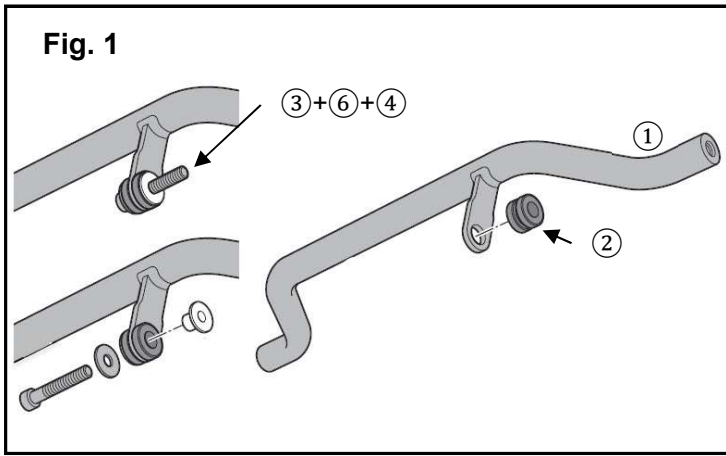

Fig. 1
1. Insert (2) Grommet into the (1) Lower Tube Brace. (Fig. 1)
2. Insert (3) Grommet Sleeve into the (2) Grommet and insert the (4) M6x40mm Socket Head Bolt with (6) Washer into the (3) Grommet Sleeve. (Fig. 1)